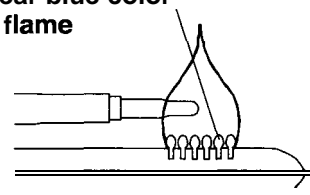

FIG. 4
- C. Check burner flame for proper appearance. The flame should be light blue with no yellow at the tip. See FIG. 4.